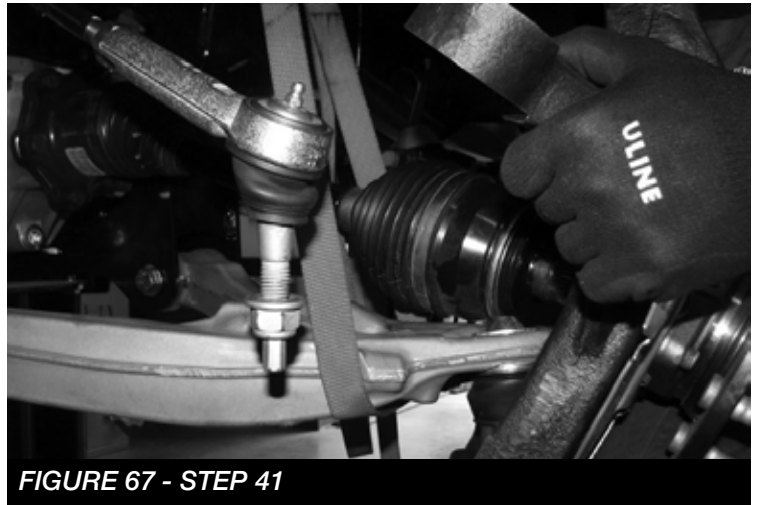
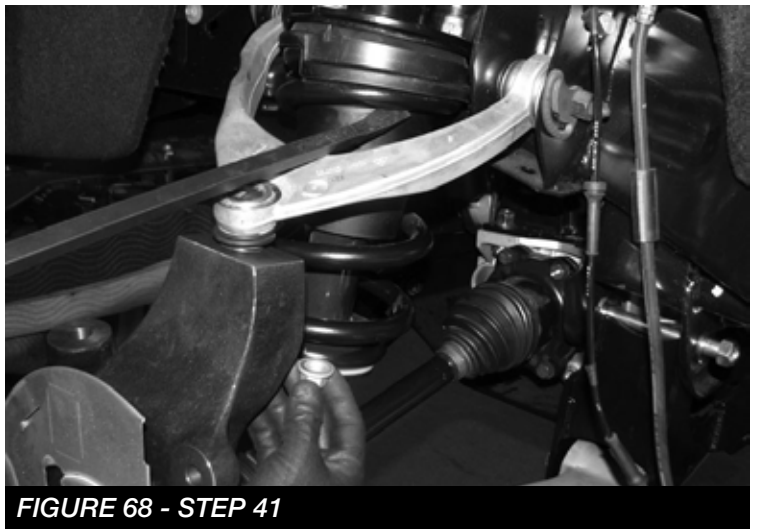

FIGURE 67 - STEP 41
FIGURE 68 - STEP 41
41. Install the new spindle onto the lower control arm ball joint while inserting the axle end through the hub assembly **SEE FIGURE 67** Torque to 83 ft-lbs. Finally, connect the upper control arm to the spindle. **SEE FIGURE 68.** Torque the upper ball joint to 35 ft-lbs, and the lower ball joint to 70 ft-lbs.